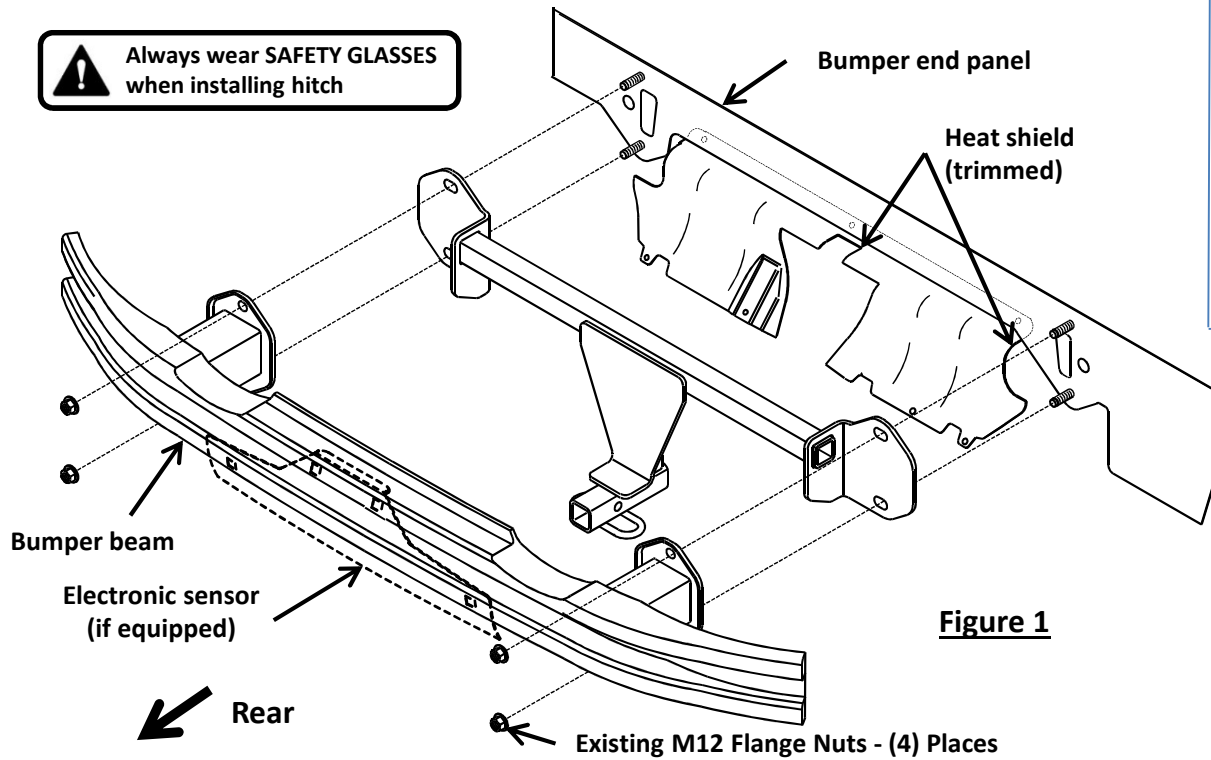
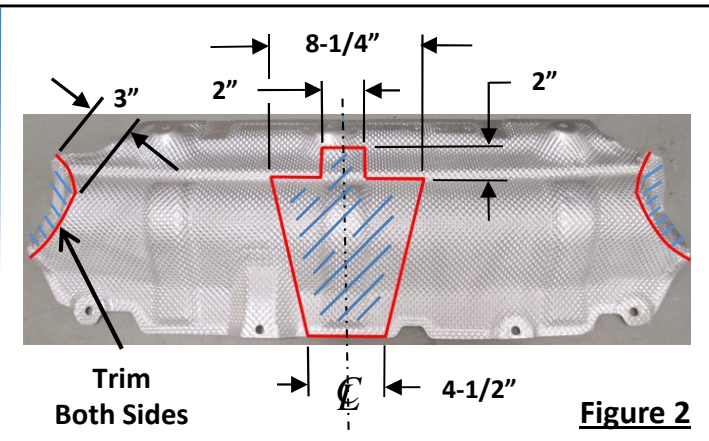

Figure 1
Figure 2
1. **Remove (2) plastic underbody panels** – using an 8mm socket, remove (5) screws and a 10mm socket, remove (1) plastic nut from bottom panels, both sides. **NOTE:** Carefully remove the (3) clips holding wire harness to the *driver's side* panel.
2. **Remove taillights** – Open trunk. Using a flat head screw driver, remove (1) plastic screw from each panel covering the taillight mounting hardware. Using a 10mm socket, remove the (2) hex nuts from taillights and gently pull the taillights rearward. Disconnect the wiring from taillights.
- 3a. **Remove fascia** - using an 8mm socket , remove (2) screws from wheel well, both sides.
b.) using a T15 torx bit, remove (1) screw located vertically in the upper area of wheel well (both sides), and (3) screws at rear of fascia.
c.) using a 10mm socket, remove (2) screws from top of fascia near trunk, (1) per side.
4. **Unplug rear sensor (if equipped)** – *on some models*, disconnect wiring harness from rear sensor or temporarily remove sensor from bumper beam. See Figure 1.
5. **Remove bumper beam** – using an 18mm deep wall socket with 6" extension, remove (4) flange hex nuts holding bumper beam to end panel. See Figure 1.
6. **Remove heat shield** – using an 8mm socket remove (4) screws and a 10mm socket, remove (3) hex nuts from rear heat shield.
7. **Trim heat shield** – using a tape measure, marker, & tin snips, mark & trim rear heat shield as shown in figure 2.
8. **Hitch installation** – raise hitch and bumper beam into position aligning holes with studs in the end panel. Sandwich the hitch between bumper beam and end panel. See Figure 1.
9. **Reinstall fasteners** - Loosely reinstall the existing (4) M12 hex flange nuts onto the studs, (2) per side.
13. **Reinstall fascia and taillights** – reinstall fascia, taillights, and (2) plastic panels near trunk.
14. **Reinstall (2) plastic underbody panels** – reinstall the (2) plastic underbody panels and reattach the wiring clips to panel on driver's side.